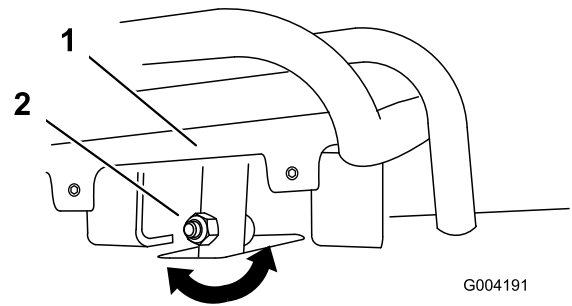
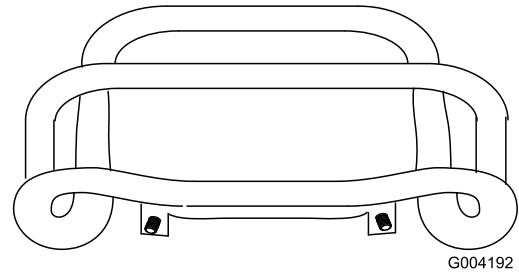

Figure 51
Figure 52
4. If the front of the traction control does not rest square and flush with the reference bar, loosen the flange nut and bolt in the stem of the traction control (Figure 51).
5. Adjust the traction control so that it rests flush against the reference bar when it is pulled straight back (Figure 51 and Figure 52).